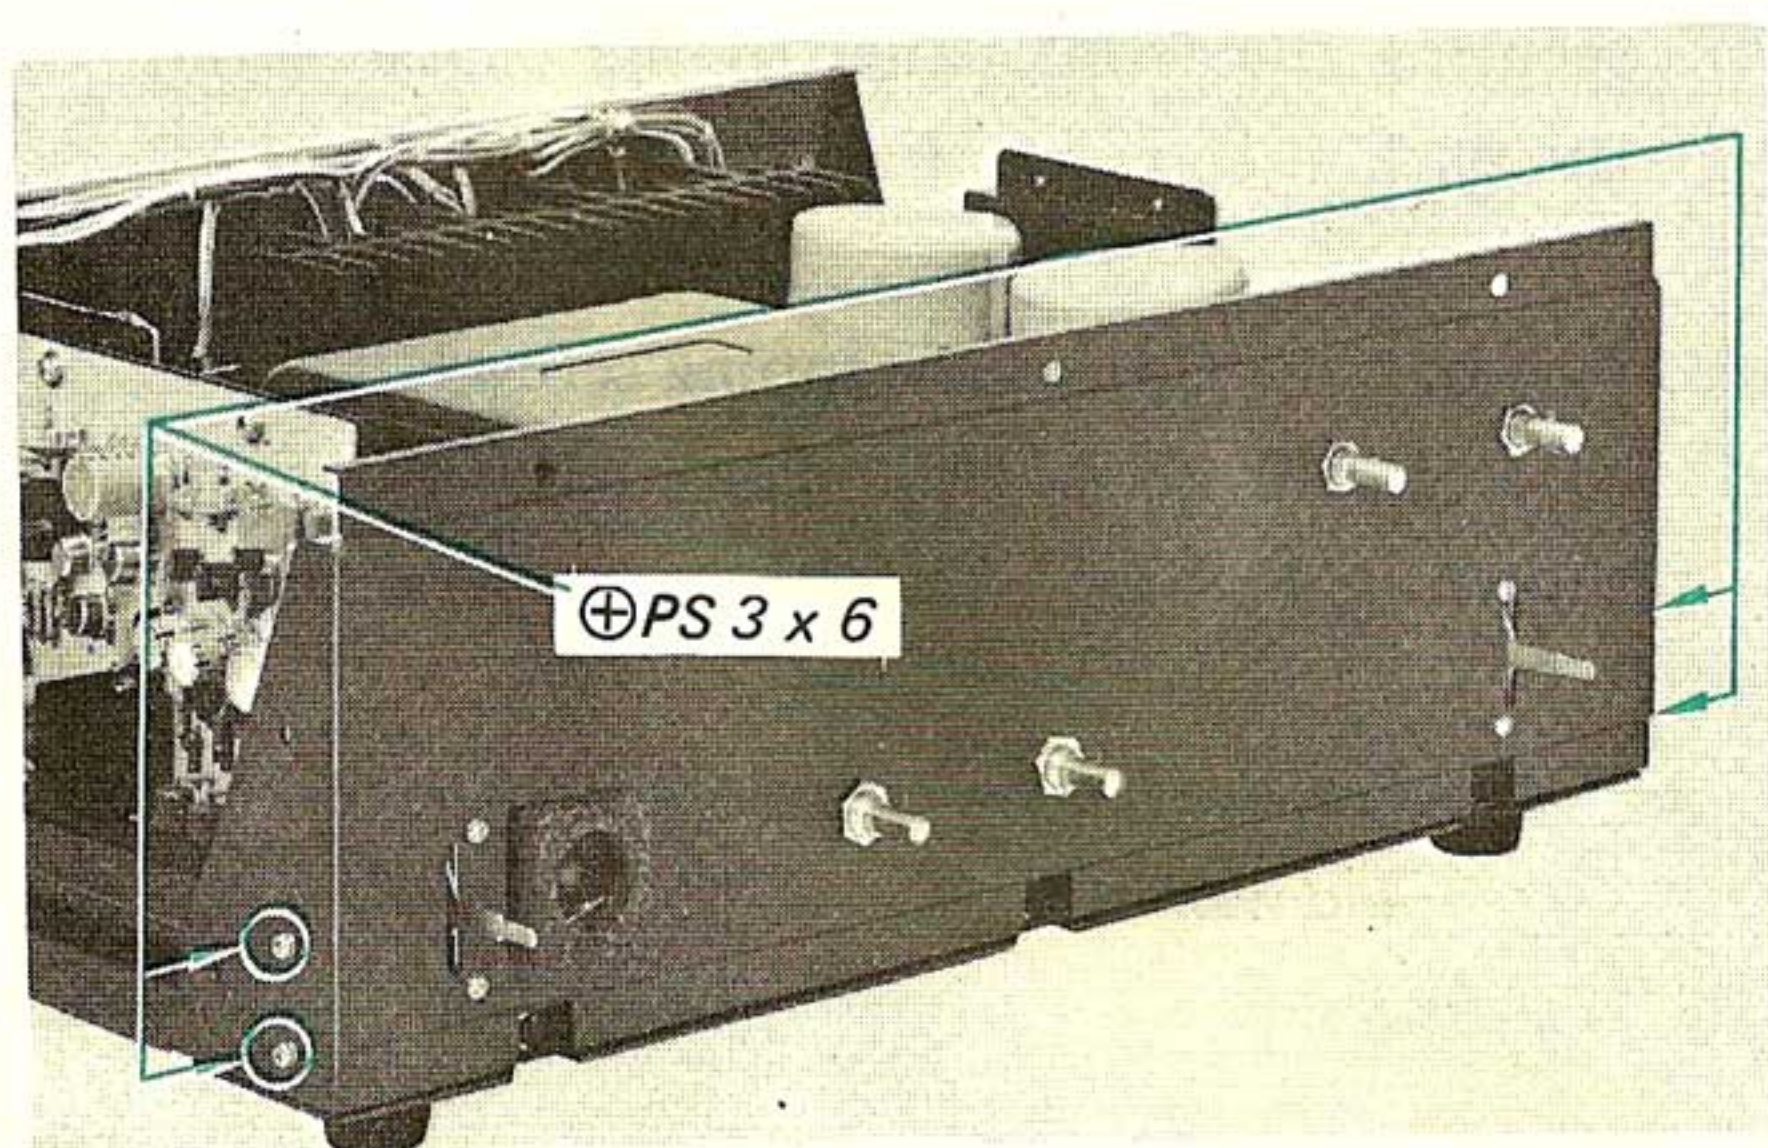
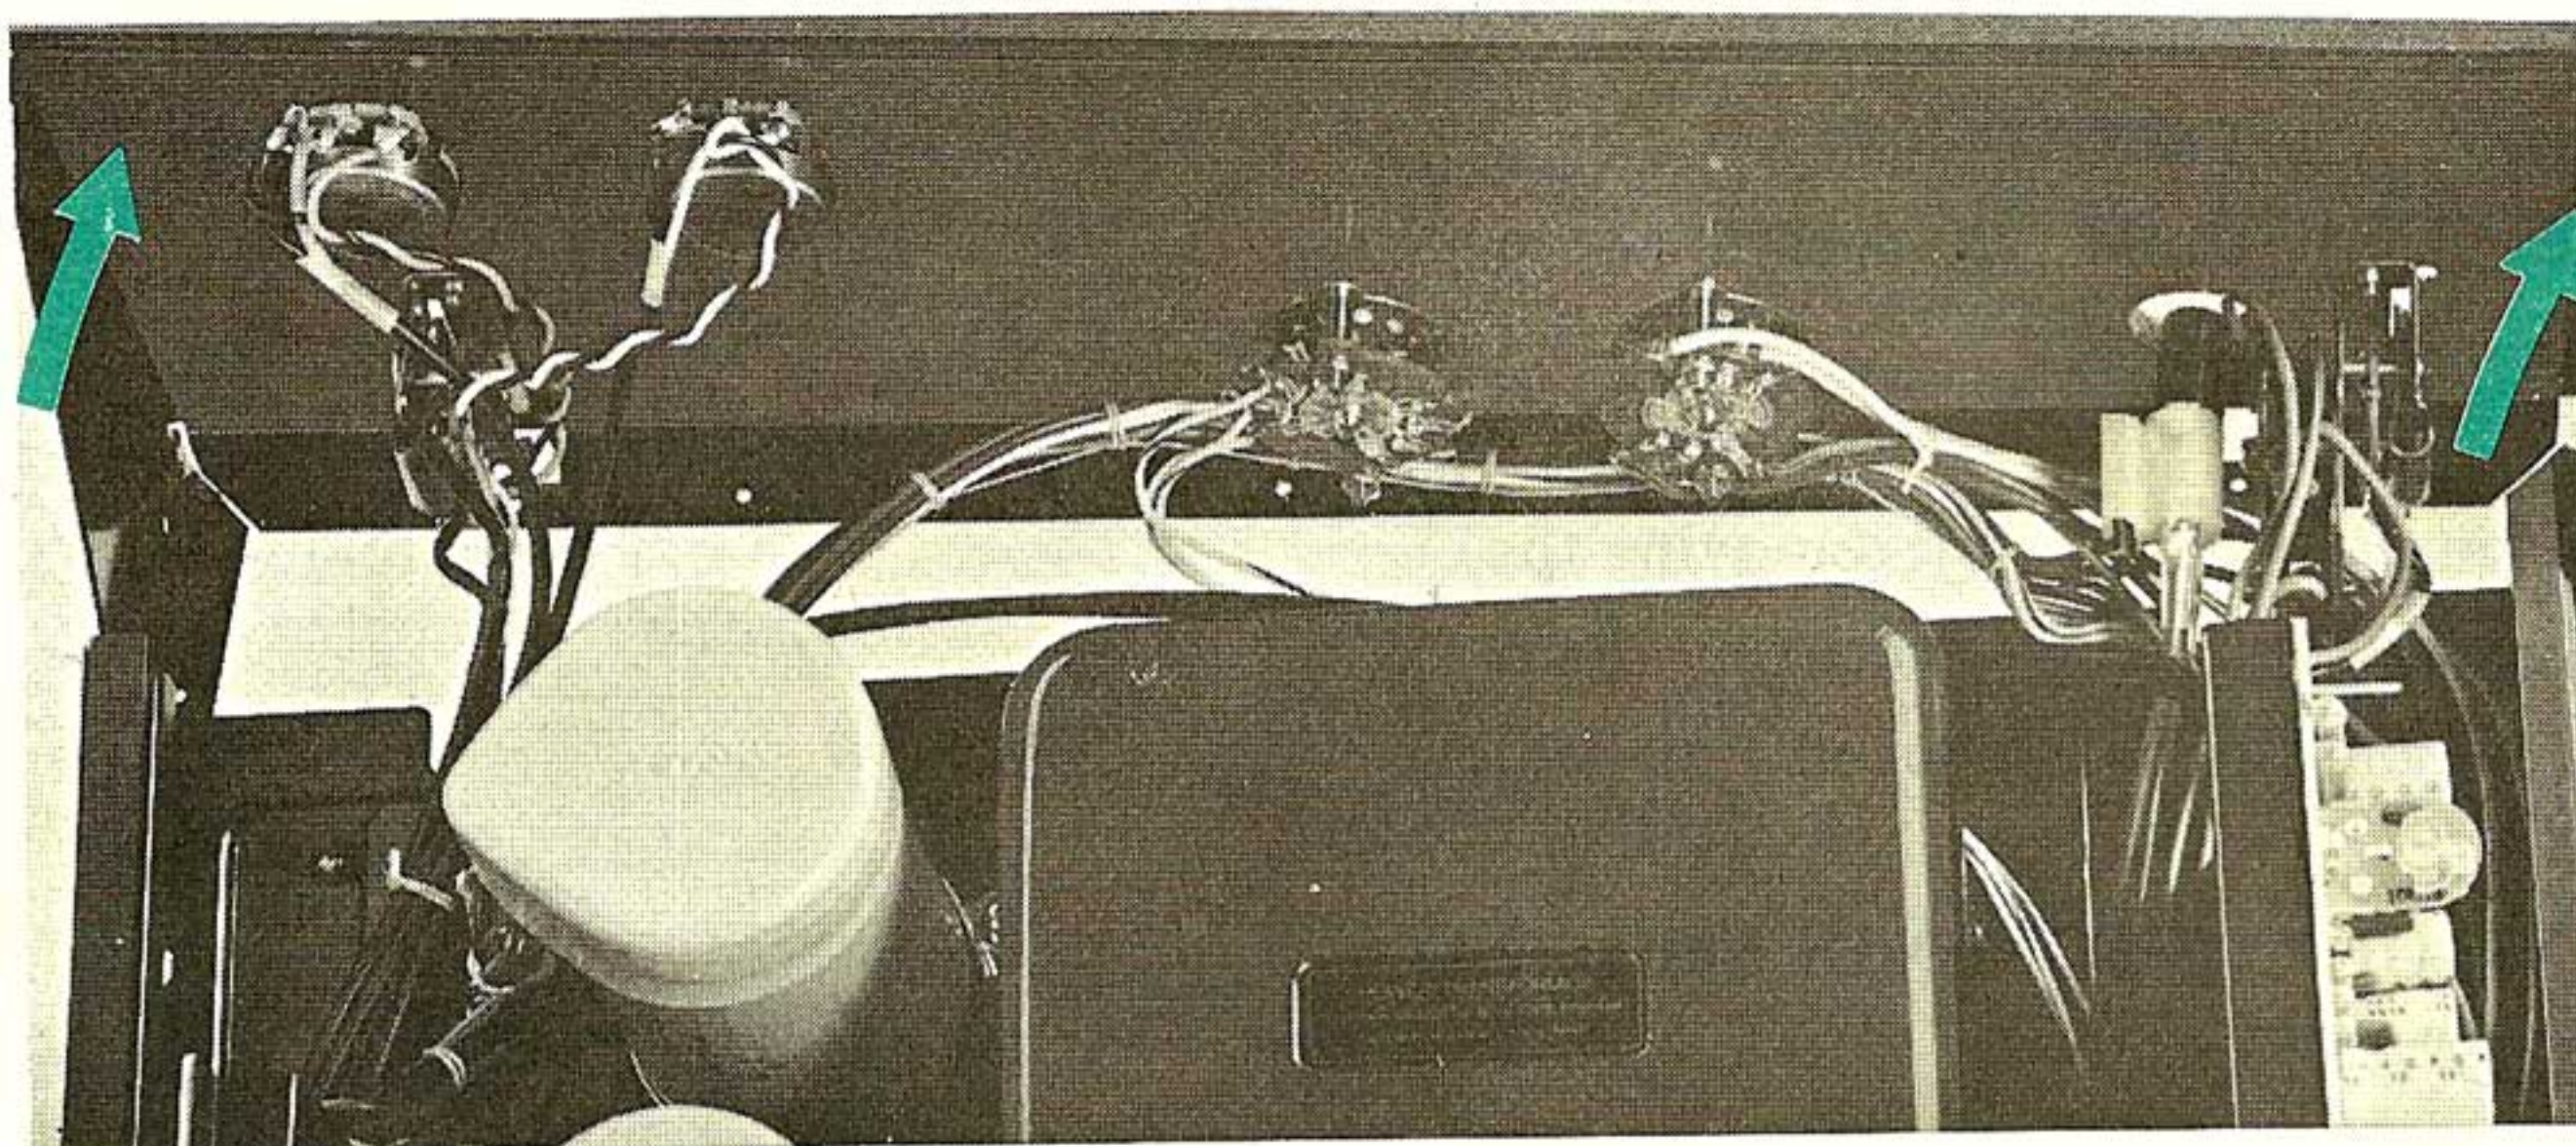

Fig. 2-4 Front subchassis removal
Fig. 2-5 Front subchassis removal
3. Remove the two screws (+PS 3 X 6) at each side of the chassis as shown in Fig. 2-4. This frees the front subchassis as shown in Fig. 2-5.